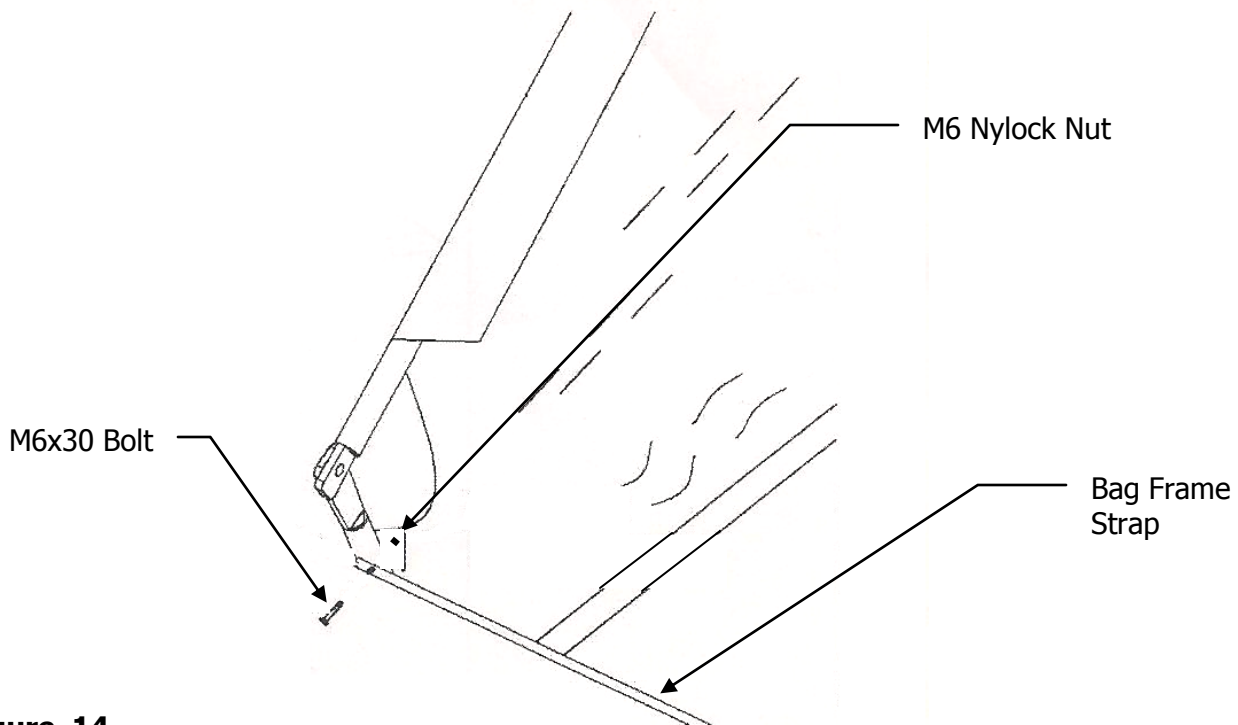

Figure 14
14. Insert the Bag Frame Strap into the stitched sleeve along the front edge of the bag bottom. Attach the Bag Frame Strap to the Lower Hopper Side Tubes using two M6x30 Bolts and two M6 Nylock Nuts. See Figure 14.